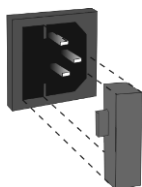
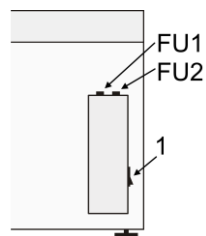

Figure 12.
Figure 14.
8.2.1. Fuse for the control box. Disconnect the unit from the electric circuit. Remove the power cable from its socket on the rear side of the unit. Open the fuse holder by pulling out the holder (fig. 12, compact models) or by screwing off the holder lid marked FU2 (fig. 14, model **UVT-S-AR**). Check the fuse and replace, if necessary, see **6.3**.